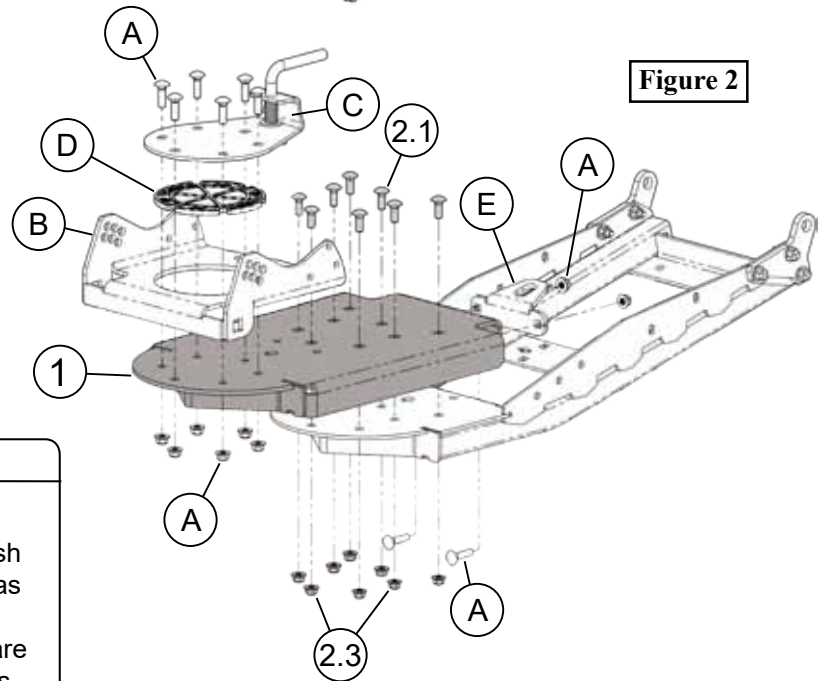

Figure 2
2. Reinstall pivot bushing (D), lift latch assembly (C), cradle (B), and cable hook bracket (E) using hardware (A) removed in step 1 onto UTV Track Extension (1) as shown in **Figure 2**.
3. Install UTV Track Extension (1) onto push tubes using bolts (2.1) and nuts (2.3) as shown in **Figure 2**. **NOTE:** If the push tube does not have rear holes, drilling is required. See **Drilling Note Below**.
If push tube does not have rear holes, drilling is required. Bolt ITEM 1 to the push tube as shown in **Figure 2**. Use ITEM 1 as a template, drill 2 holes through the push tube using a 13/32" drill bit. Once holes are drilled, finish installing the remaining bolts and nuts (2.1 and 2.3).